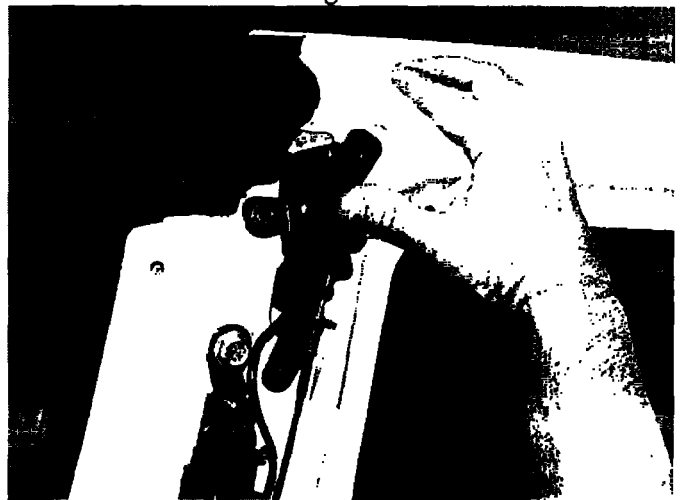

Figure 14
- a. Use your thumb to push upper door latch into the closed position (see Figure 14).